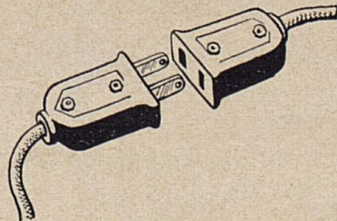

Fig. 16
1. By cutting out the broken piece and inserting a cord connector. Fig. 16.